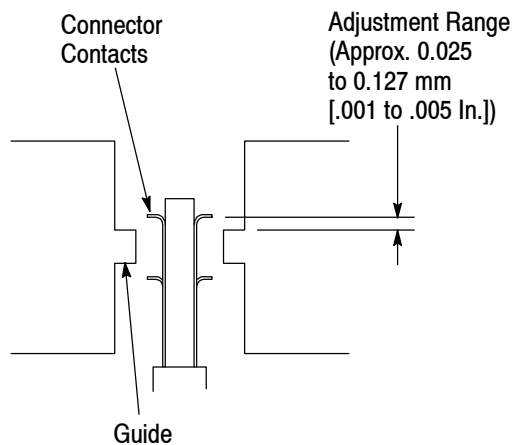

Figure 4
6. Turn the machine's height-adjustment wheel until the height is within the adjustment range, as shown in Figure 4. Turn the wheel **CLOCKWISE** to **RAISE** the mandrel (and connector) and **COUNTERCLOCKWISE** to **LOWER** the mandrel (and connector).